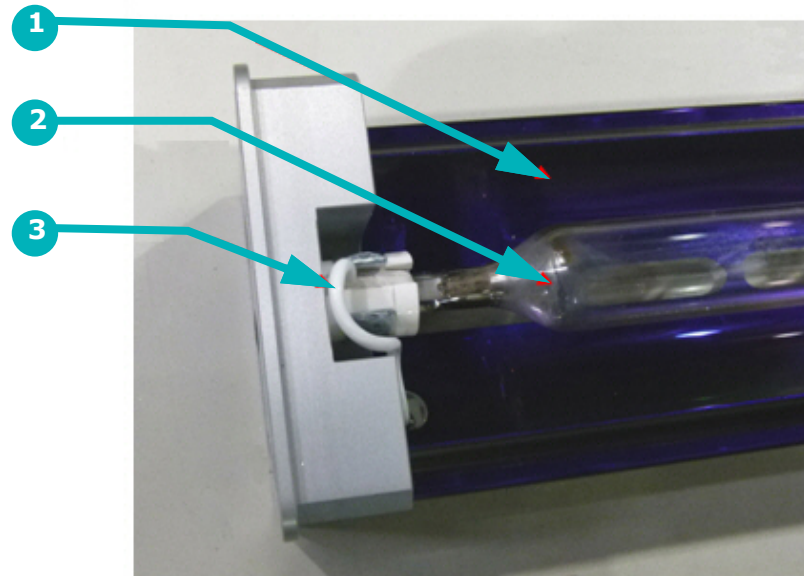

Figure 2-69: Installing new bulb
- J. Shape wires so that they are tucked snugly up against block and housing (Figure 2-69, item 2) so that they will not catch when bulb housing is reinstalled.